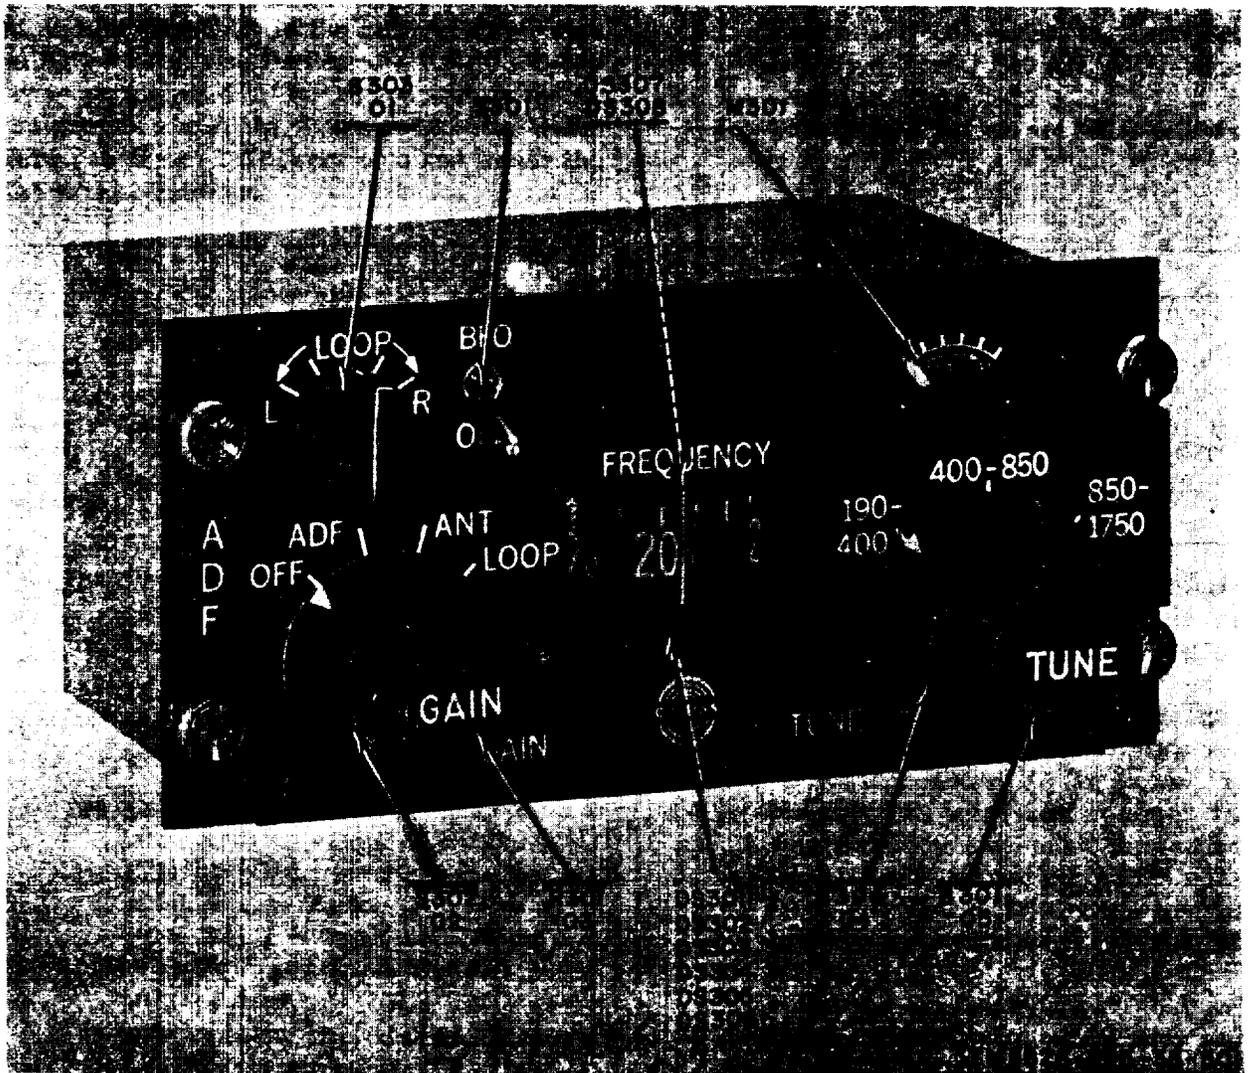

Figure 2-20. Control unit, front view.
To remove the control unit dust cover, loosen the two quarter-turn screws at the rear. For parts location, refer to figures 2-20, 2-21, and 2-22. Figure 5-11 is a schematic diagram of the control unit.
a. *Tuning Meter Test.* Set test set RECEIVER-CONTROL switch to CONTROL and CONTROL TEST switch to position 1. Set DC POWER switch to ON. The tuning meter on the control unit under test should indicate half scale and the panel and dials should be illuminated. If the tuning meter indicates otherwise or is inoperative, tuning meter M301 (fig. 2-20) is defective.
(1) Set control unit function switch to the ADF mode.
(2) Set control unit range switch to the 850-1750 position, Tune control unit to 850 kc. The test set BEARING INDICATOR pointer should indicate  $343 \pm 1$  degree.
(3) Tune control unit until the FREQUENCY dial hairline bisects the small zero between 1,400 and 1,500 kc, The test set BEARING INDICATOR should indicate  $239 \pm 1$  degree,
(4) Tune control unit to 1700 kc. The BEARING INDICATOR should indicate  $203 \pm 2$  degrees.
(5) If the BEARING INDICATOR pointer indication does agree with the normal indications obtained in the above tests, either tuning synchro B301 is